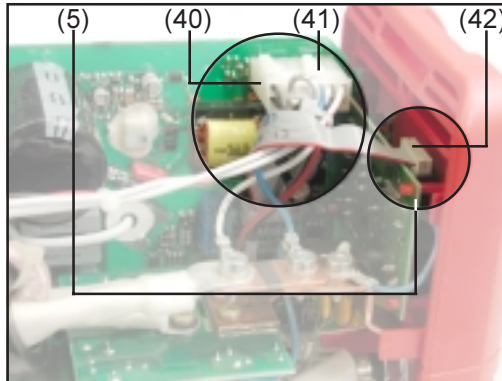

Fig. 19
- Plug the 10-pole Molex plug (41) onto board LCA15
- Plug the 2-pole Molex plug (40) onto board LCA15
- Arrange the ribbon cable (42) above the cable harness, as shown in Fig. 19
- Plug the ribbon cable (42) to board FPA15 (5)